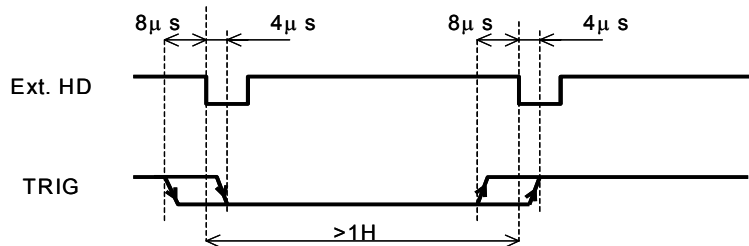
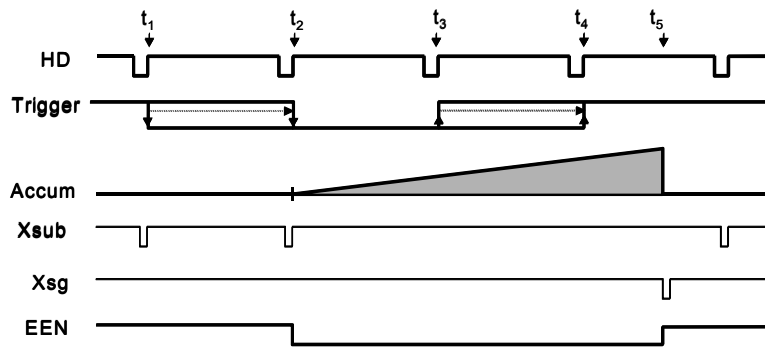
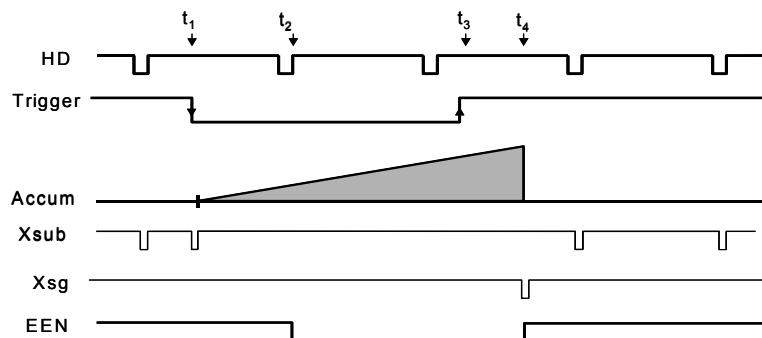

Fig. 17. Trigger/HD Timing.
Fig.18. Pulse Width H Synchronous Accumulation
Fig. 19. Pulse Width H Asynchronous Accumulation.
The default accumulation is HD synchronously accumulation (HC=0). The accumulation starts at the first HD after the trigger leading edge. Fig. 18. To avoid the $<1H$ jitter caused by this delay, synchronize the external trigger to HD as shown in fig. 17 below. The trigger level translations should be placed inside the $8 + 4 \mu\text{s}$.
In PWC mode (TR =2) and Frame Delay readout (TR=3), the accumulation mode **HC** can be set to asynchronous accumulation (HC=1). The exposure will start immediately at the leading edge of the trigger pulse without waiting for the HD. Fig. 19.
- With HC=0 the start of exposure will start synchronized to the internal H signal. The start may be shifted max 1H. To avoid this shift (1 H jitter), synchronize the camera to an external HD and make sure that the trigger pulse aligns to the HD as shown in fig. 17. With HC=1 the exposure will start immediately. Refer to fig. 18 and fig. 19.
- With HC=0 the start of exposure will start synchronized to the internal H signal, the start of exposure may be shifted max 1H. To avoid this shift (jitter), synchronize the camera to an external HD and make sure that the trigger pulse aligns to the HD as shown in fig. 17.
- With HC=1 the exposure will start immediately. Refer to fig. 18 and fig. 19.
- The start of exposure will start synchronized to the internal H signal. The start may be shifted max 1H. To avoid this shift (1 H jitter), synchronize the camera to an external HD and make sure that the trigger pulse aligns to the HD as shown in fig. 17.